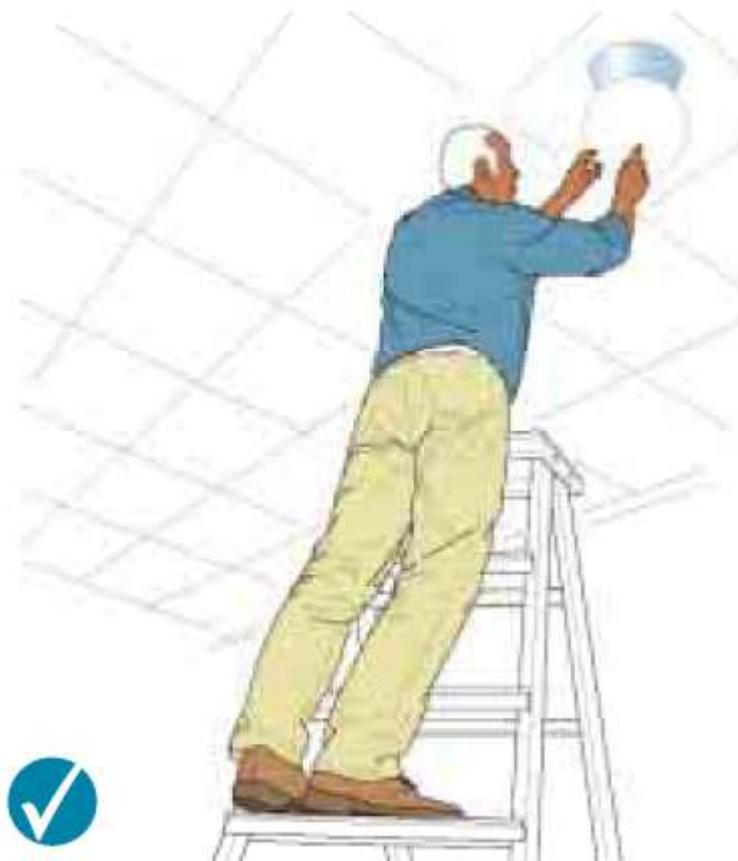

Figure 12 **Correct - three clear steps. Don't work any higher up this type of stepladder**
- don't use the top three steps of swing-back or double-sided stepladders, where a step forms the very top of the stepladder (see Figure 12);